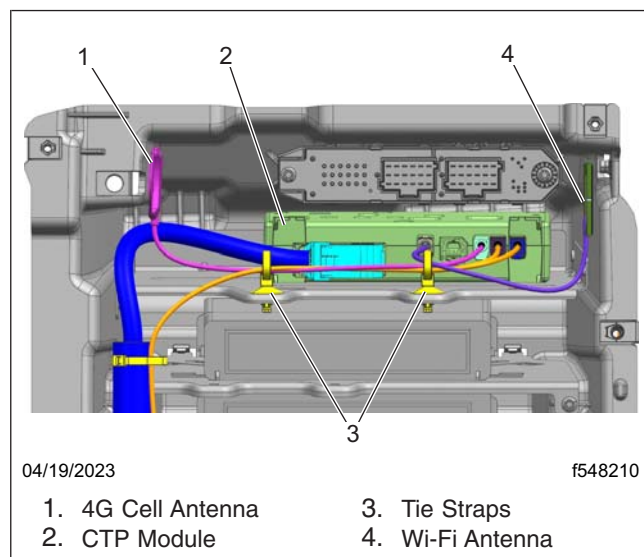

Fig. 1, Electronics Bay
5. Position the new CTP2 ECU in the top shelf of the electronics bay, then press the ECU firmly towards the back of the shelf. See Fig. 1. Lower the front of the CTP2 onto the surface of the shelf, and adjust its position horizontally until the tabs on the CTP2 are fully seated in the mounting slots.
6. Connect the CTP2 electrical harness connector and antenna connectors to CTP2. See Fig. 1 for connector and antenna connection locations.